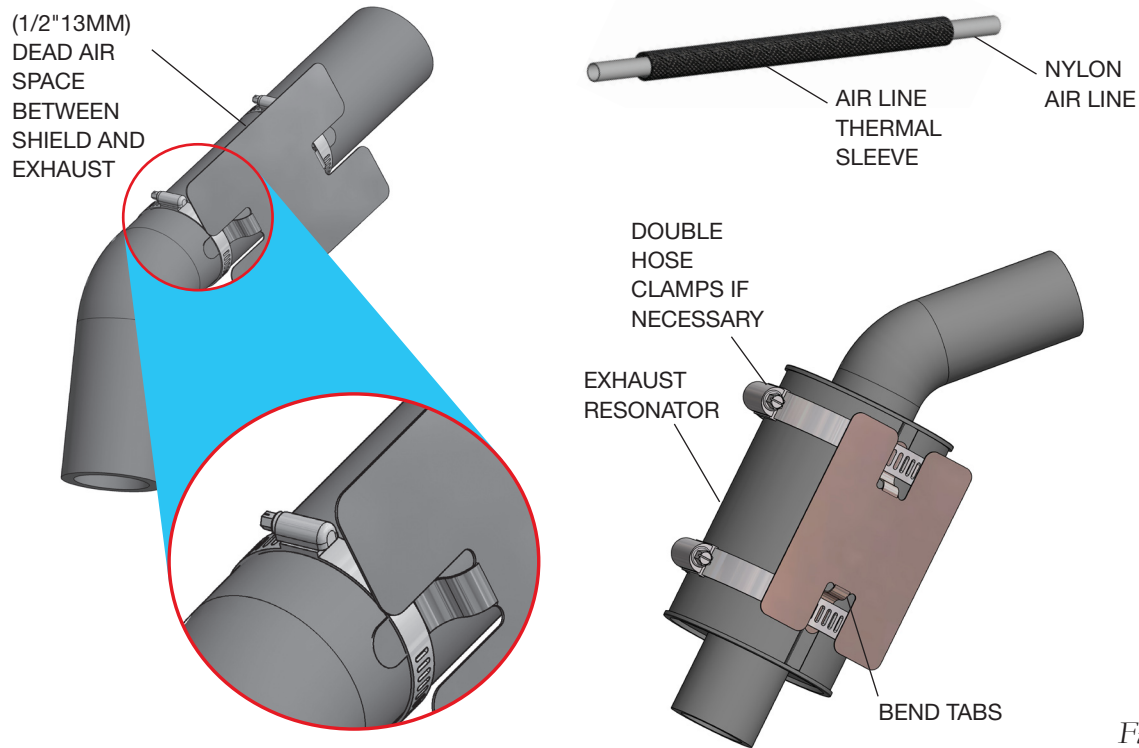

Fig. 31
1. Attach the metal heat shield to the exhaust where it is closest to the air spring. Slide the air line thermal sleeve over the nylon air line and place it where the air line is closest to the exhaust (Fig. 31).